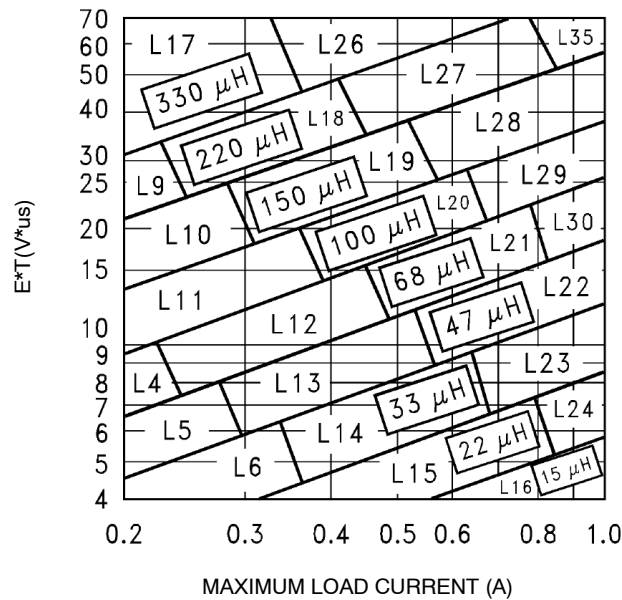

Figure 19. Inductor Value Selection Guides (For Continuous Mode Operation)
| <p>4. Inductor Selection (L1)</p> <p>A. Use the following formula to calculate the inductor Volt x microsecond [V x μs] constant:</p> $E \times T = (V_{IN} - V_{OUT} - V_{SAT}) \times \frac{V_{OUT} + V_D}{V_{IN} - V_{SAT} + V_D} \times \frac{1000}{150 \text{ kHz}} (V \times \mu\text{s})$ <p>B. Match the calculated E x T value with the corresponding number on the vertical axis of the Inductor Value Selection Guide shown in Figure 19. This E x T constant is a measure of the energy handling capability of an inductor and is dependent upon the type of core, the core area, the number of turns, and the duty cycle.</p> <p>C. Next step is to identify the inductance region intersected by the E x T value and the maximum load current value on the horizontal axis shown in Figure 19.</p> <p>D. Select an appropriate inductor from Table 3. The inductor chosen must be rated for a switching frequency of 150 kHz and for a current rating of $1.15 \times I_{L\text{Load}}$. The inductor current rating can also be determined by calculating the inductor peak current:</p> $I_{p(\text{max})} = I_{L\text{Load}(\text{max})} + \frac{(V_{in} - V_{out}) t_{on}}{2L}$ <p>where t_{on} is the "on" time of the power switch and</p> $t_{on} = \frac{V_{out}}{V_{in}} \times \frac{1.0}{f_{osc}}$ | <p>4. Inductor Selection (L1)</p> <p>A. Calculate E x T [V x μs] constant:</p> $E \times T = (12 - 5 - 1.0) \times \frac{5 + 0.5}{12 - 1 + 0.5} \times \frac{1000}{150 \text{ kHz}} (V \times \mu\text{s})$ $E \times T = (6) \times \frac{5.5}{11.5} \times 6.7 (V \times \mu\text{s})$ <p>B. E x T = 19.2 [V x μs]</p> <p>C. $I_{L\text{Load}(\text{max})} = 1.0 \text{ A}$ Inductance Region = L30</p> <p>D. Proper inductor value = 68 μH Choose the inductor from Table 3.</p> |
To simplify the inductor selection process, an inductor selection guide for the LM2595 regulator was added to this data sheet (Figure 19). This guide assumes that the regulator is operating in the continuous mode, and selects an inductor that will allow a peak-to-peak inductor ripple current to be a certain percentage of the maximum design load current. This percentage is allowed to change as different design load currents are selected. For light loads (less than approximately 300 mA) it may be desirable to operate the regulator in the discontinuous mode, because the inductor value and size can be kept relatively low. Consequently, the percentage of inductor peak-to-peak current increases. This discontinuous mode of operation is perfectly acceptable for this type of switching converter. Any buck regulator will be forced to enter discontinuous mode if the load current is light enough.